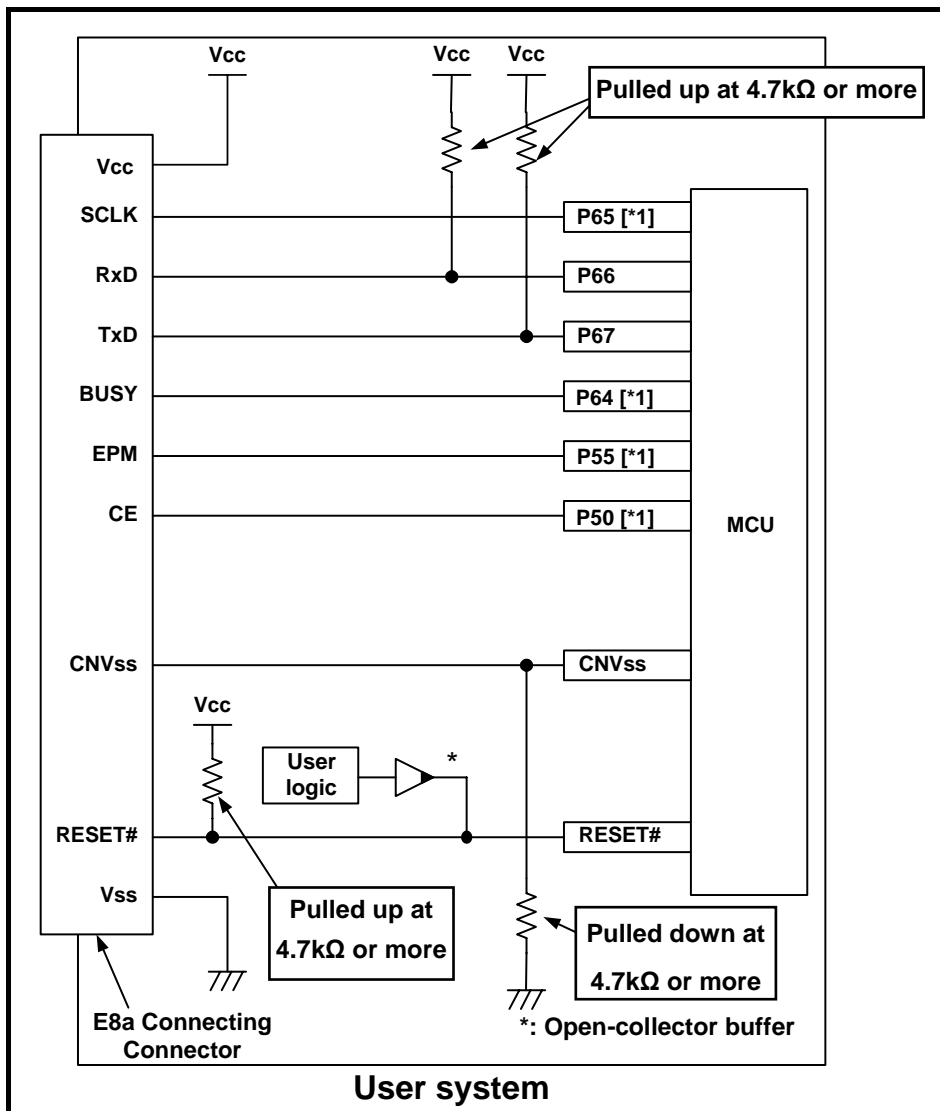

Figure 4.1 Example of an E8a Connection (Single Power Supply and Single-chip Mode)
- Single power supply and single-chip mode: See Figure 4.1.